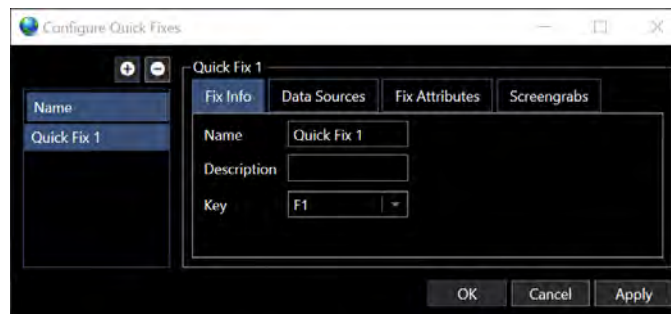

FIGURE 14-42 CONFIGURE QUICK FIXES - FILE INFO TAB
3. In the **Fix Info** tab (see Figure 14-42)